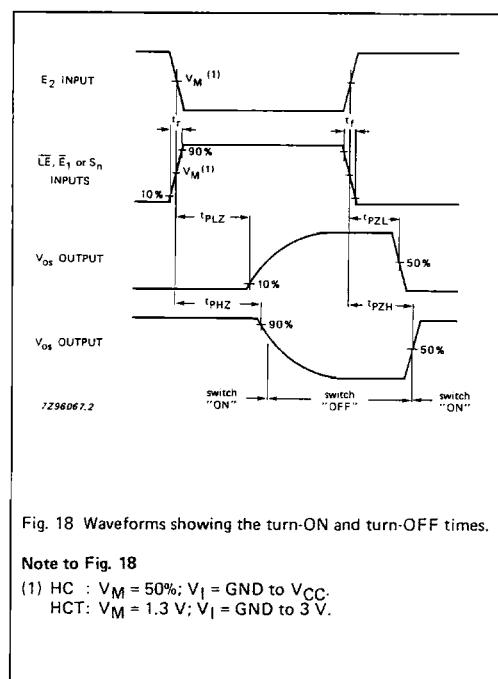

Fig. 18 Waveforms showing the turn-ON and turn-OFF times.
**Note to Fig. 18**
(1) HC :  $V_M = 50\%$ ;  $V_I = \text{GND to } V_{CC}$ .